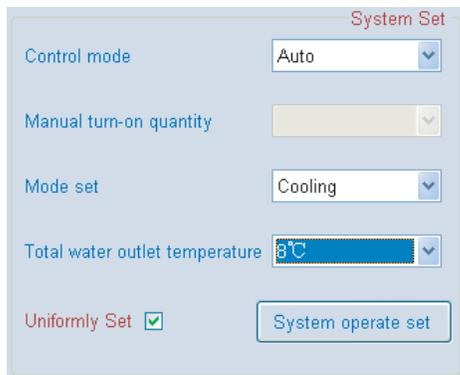
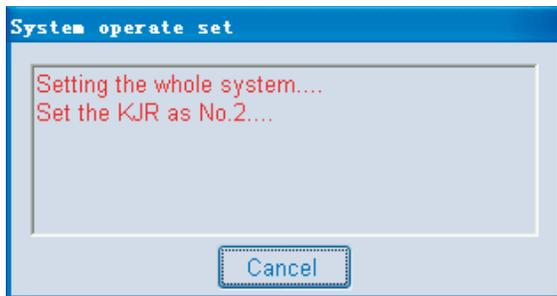

Fig.4-102
Fig.4-103
3) Uniformly set all wire controllers: Tick Uniformly Set as Fig. 4-102, and then select the corresponding parameters, click the System Operate Set, system starts to set up. A message box as Fig. 4-103 will display during the setting. Once successful setting, a message box as Fig. 4-104 will display to inform you Successful System Set, whereas, Failed System set as Fig. 4-105 will display. After all setting done, a message box (see Fig. 4-106) will display informing "Setting Finish"!